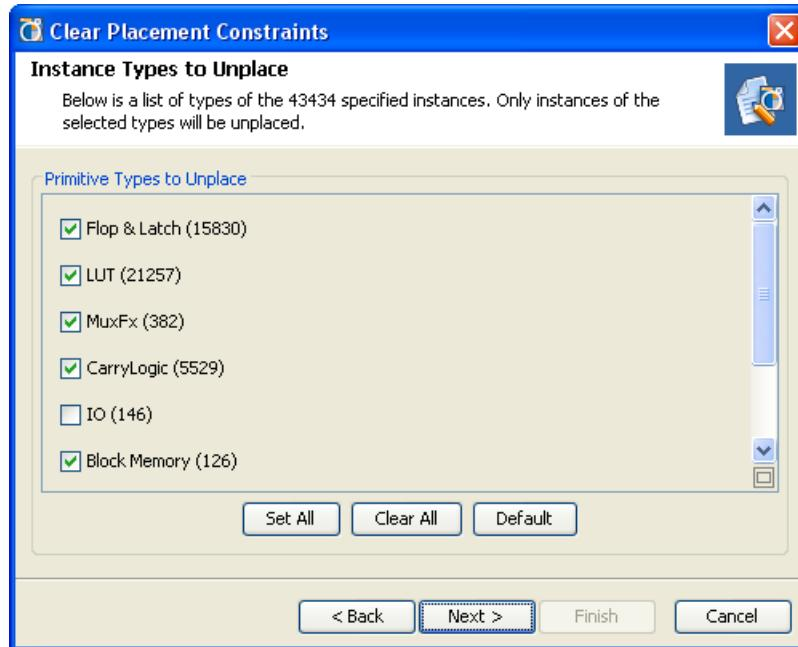

Figure 10-28: Unplace Instance Types
**Note:** If you have not previously selected instances, step 2 is skipped, and you are presented with a list of instance types in the design to unplace as described in step 4, and shown in Figure 10-28, page 352.
You are presented with a list of instance types to unplace as shown in Figure 10-28, page 352. This lets you select from the various types of instances within the group of instances specified in Step 2.